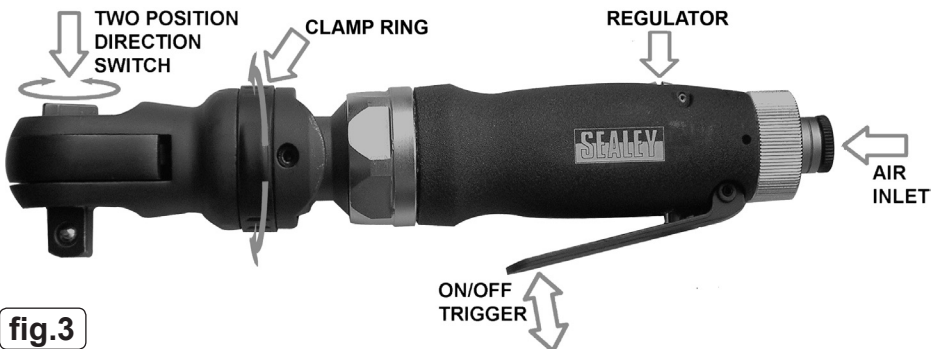

fig.3
- 4.2. To adjust the wrench head to the desired angle; unlock by rotating the clamp ring (fig.3), move the head to the desired angle and rotate the clamp ring again to lock wrench head in position.
- 4.4. To change wrench direction turn the switch on the head of the wrench. (See fig.3)